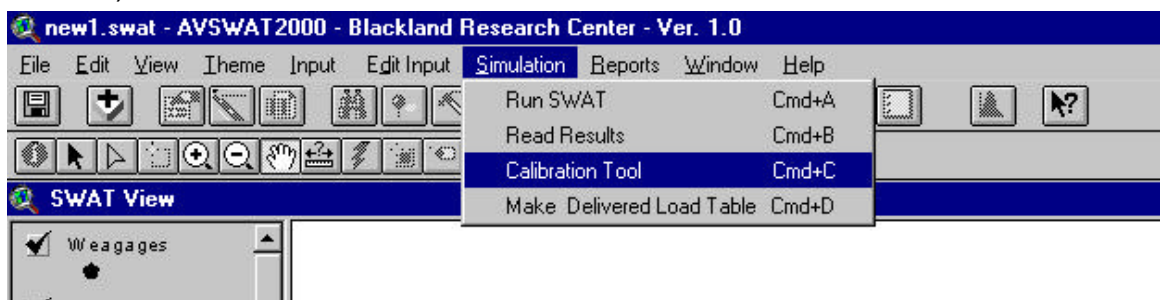

Figure 13.35
- Select **Calibration Tool** from the **Simulation** menu (or press **Cmd+C**) (Figure 13.35).